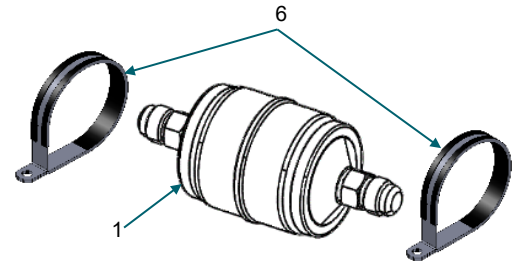

Figure 7:
- Loosen P-clamps (6) to remove Fuel Filter (1). *Figure 7*
- (6) P-clamps *Figure 7*